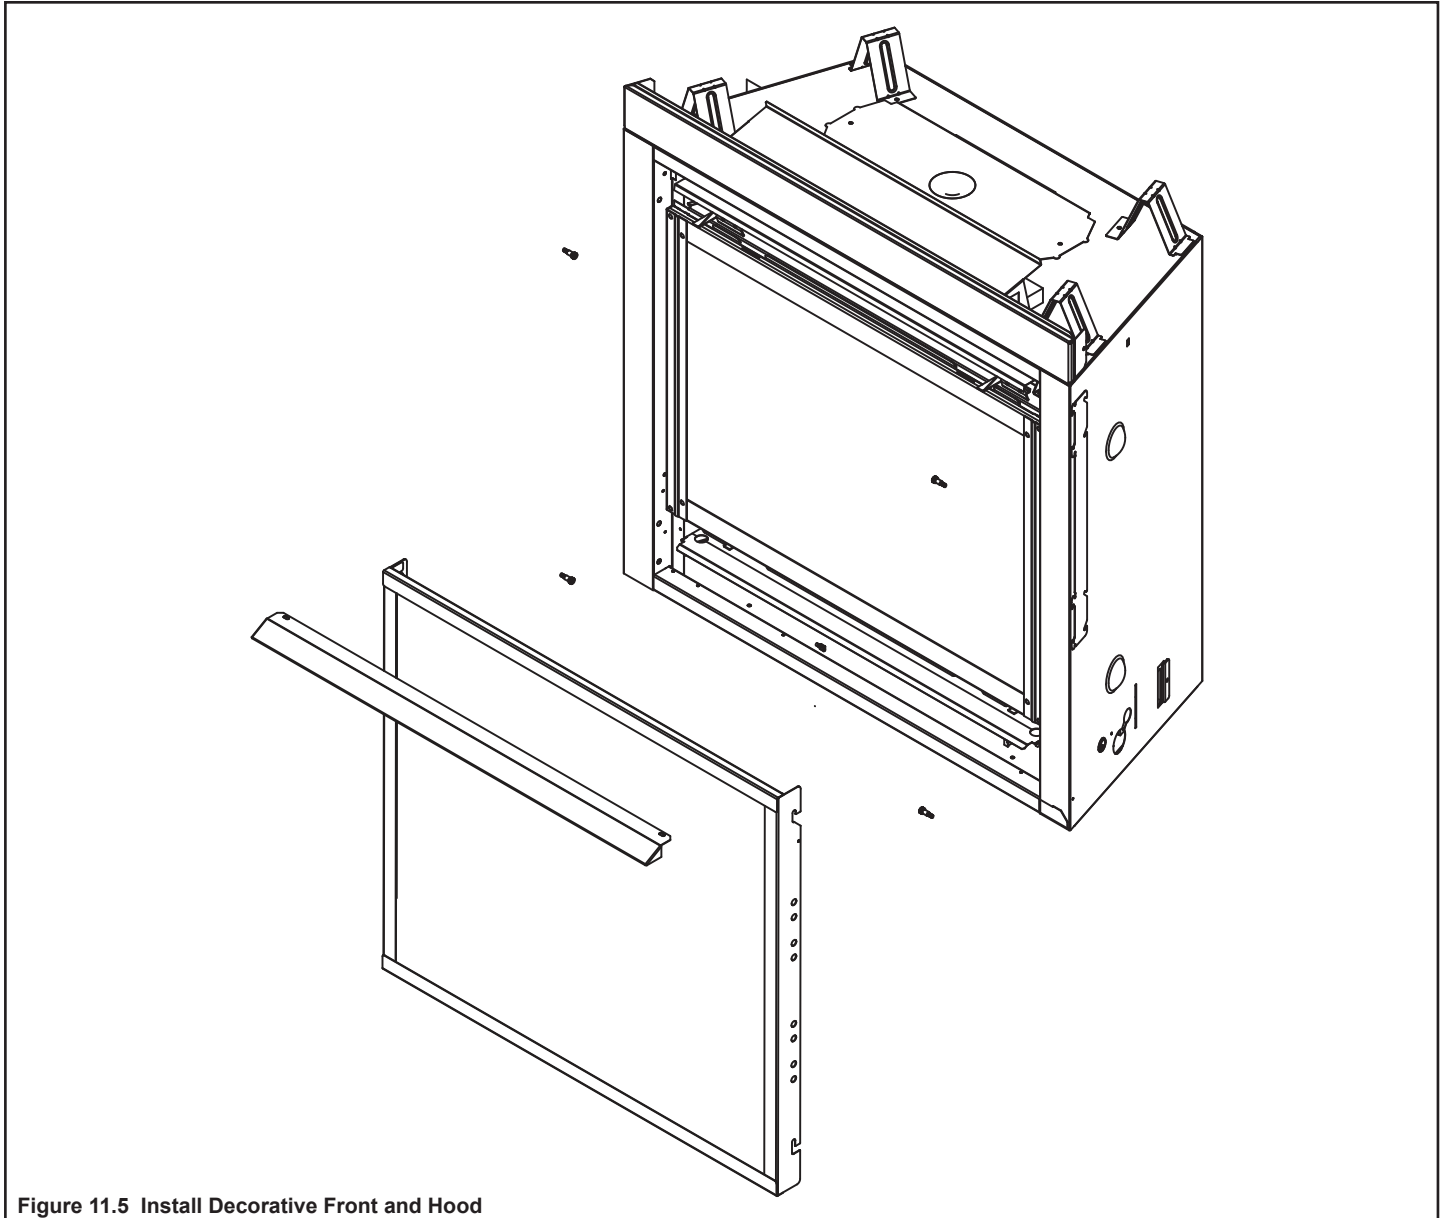

Figure 11.5 Install Decorative Front and Hood
2. Install four shoulder bolts as shown in figure 11.5.
4. Install hood on appliance by inserting into the two hood clips. See Figure 11.5.